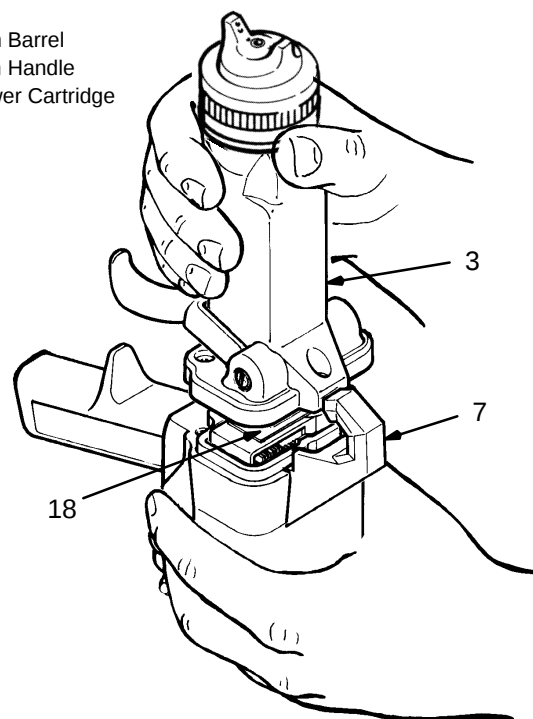

Fig 21
1. Using the wrench (63) supplied, loosen the three socket head cap screws (5).
2. Hold the gun handle (7) with one hand and pull the barrel (3) straight away from the handle to remove it. See Fig 21.